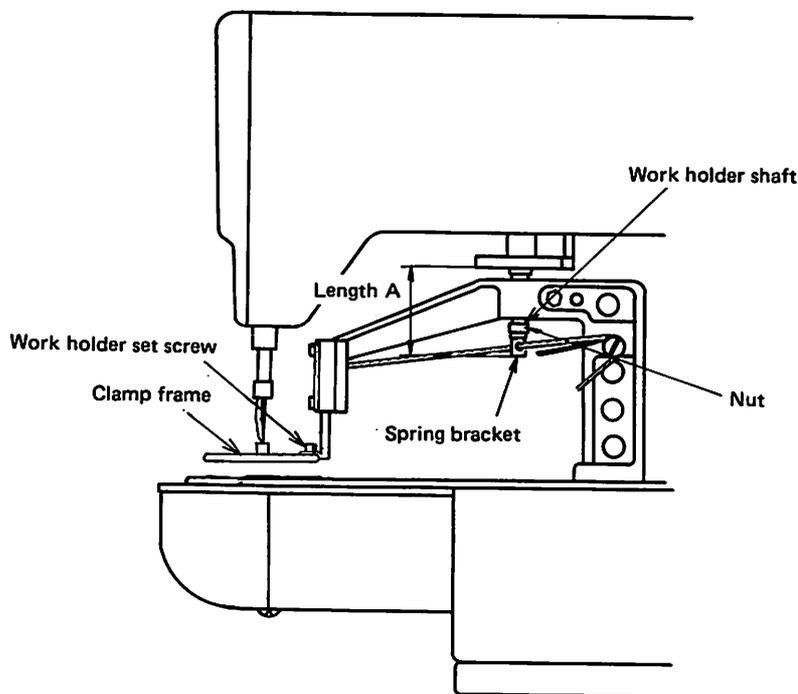

Fig. 9.4
- (1) To increase pressure, loosen the nut (Fig. 9.4) and turn the work holder shaft counter-clockwise using a spanner (thereby length A becomes larger).
- (2) To decrease pressure, turn the work holder shaft clockwise.
- (3) With the standard adjustment, fabric(s) thicker than about 6 mm may not be held down. In this case, decrease the pressure.